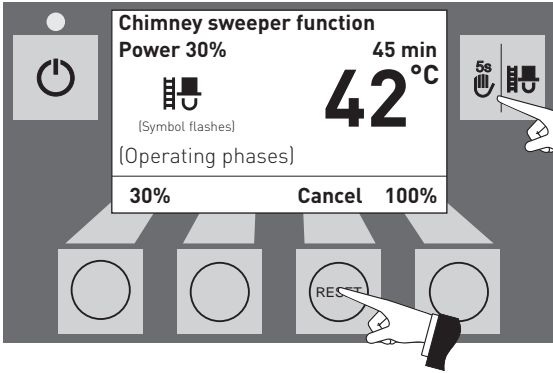

Fig. 28
- when the **Cancel** button is pressed – Fig. 28.